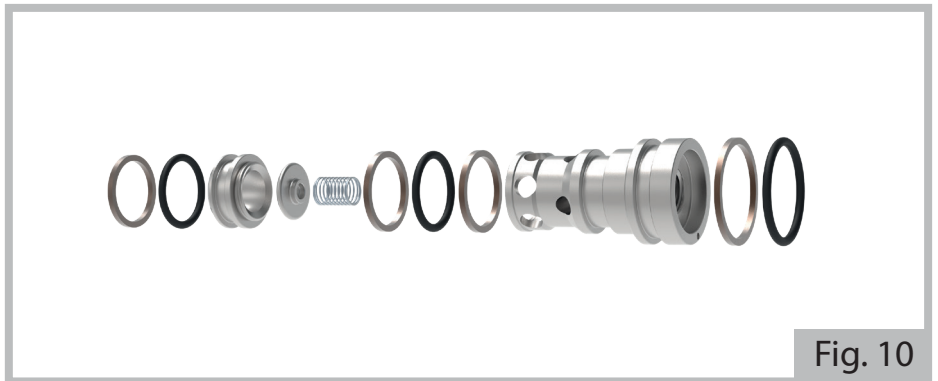

Fig. 10
- a) Fit the suction valves (operation **A** figure 10)
- b) Fit the valve seats and the corresponding sealing rings (operation **B** figure 10).